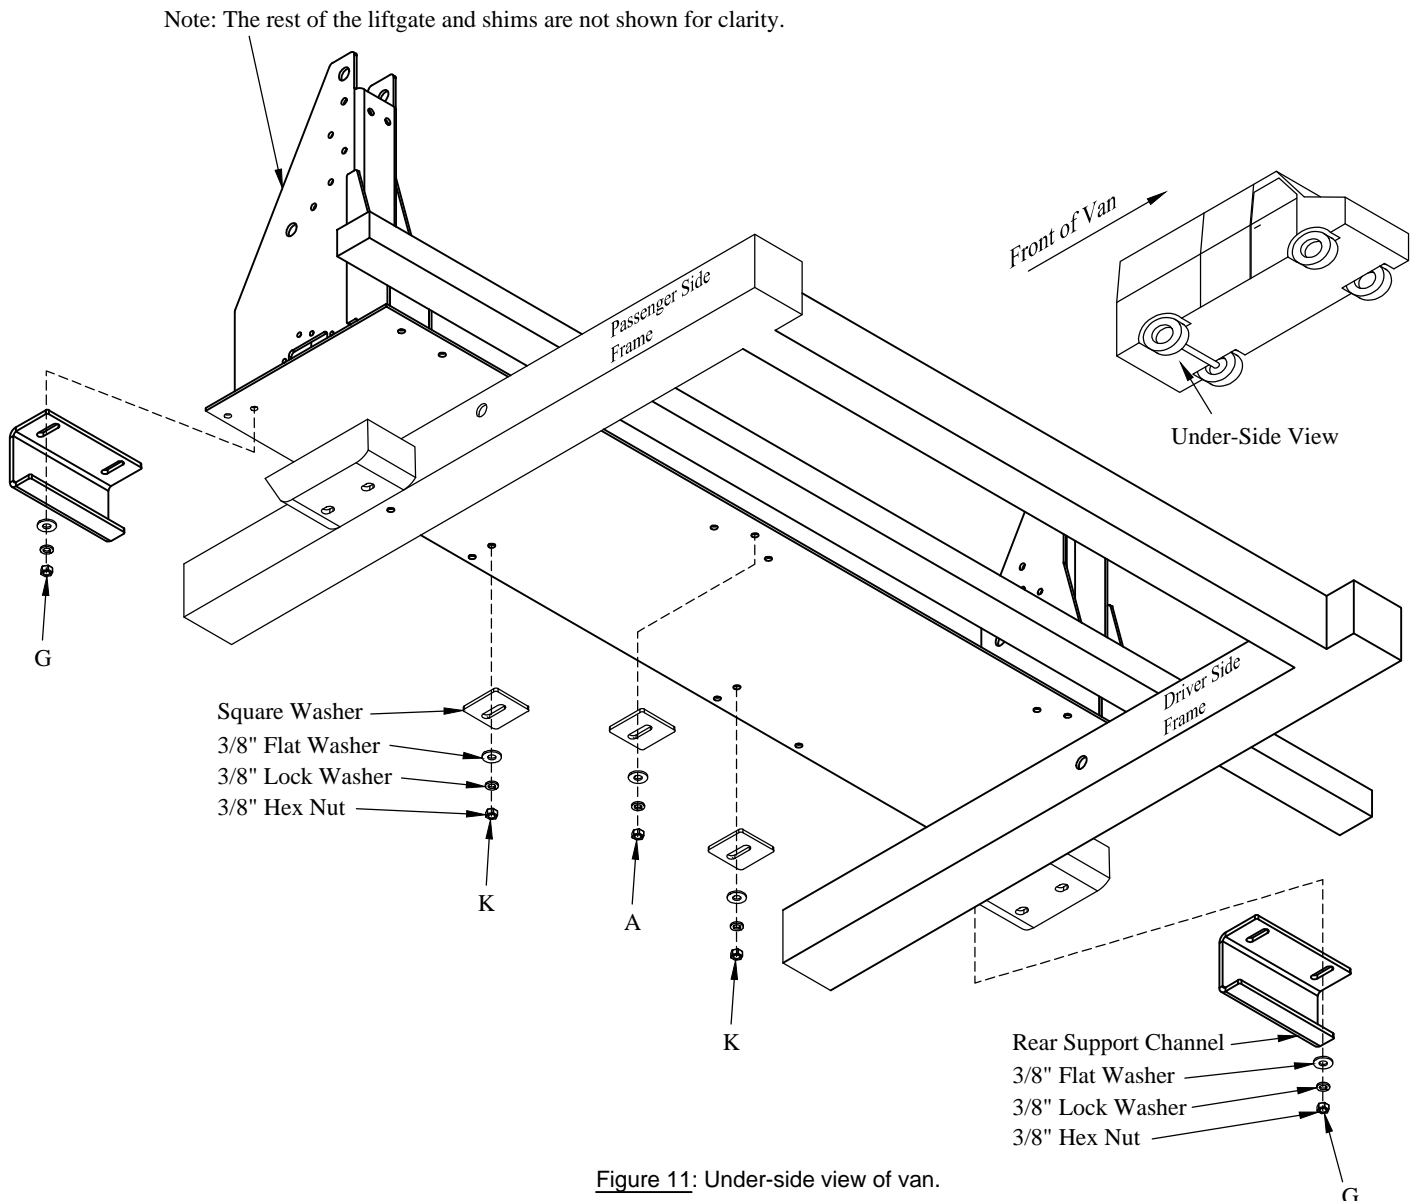

Figure 11: Under-side view of van.
4. **Install** two (2) 3/8" x 2" bolts with 3/8" flat washer at "G" locations, from the top side into the rear support channels (Figure 11).
6. **Insert** two (2) 3/8" x 2" bolts at "K" locations in the base plate, down through van floor (Figure 11).
8. **Insert** two (2) 3/8" x 2" bolts at "K" locations in the base plate, down through van floor (Figure 11).